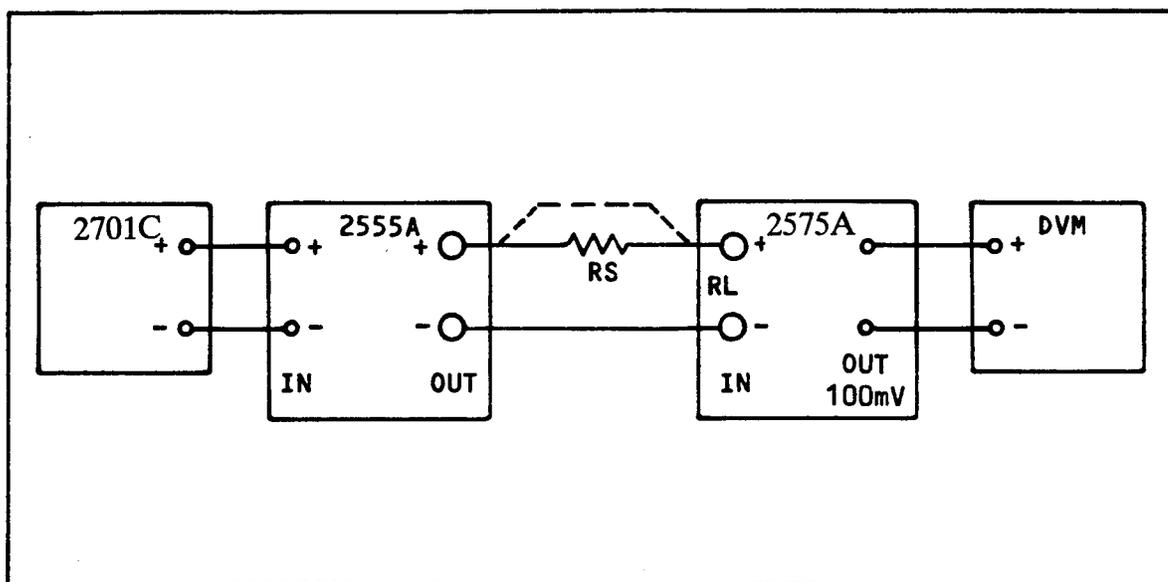

Figure 5-1. Output Impedance Test Equipment Set-Up
- 1) Connect the equipment as shown in Figure 5-1 using a Valhalla 2575A Current Shunt, 2mA range, (or equivalent) for RL and a 4 kohm 1% resistor in series for RS.